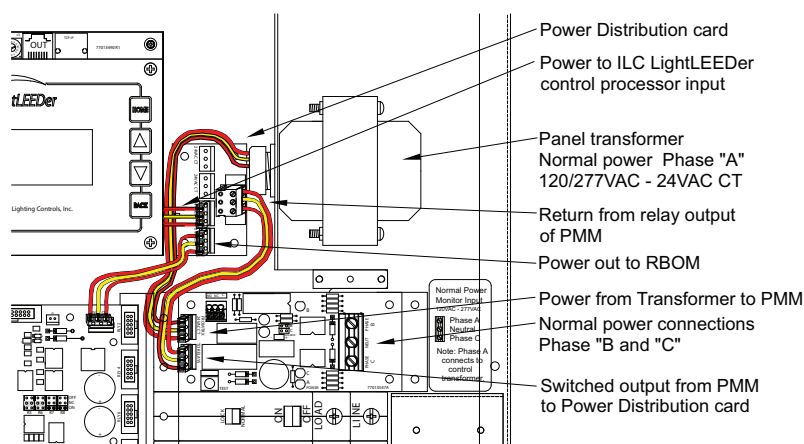

Figure 4 - Termination of 24VAC CT wiring to PMM
2. The "TO RELAYS" terminal will feed the power distribution card. (See Figure 4)